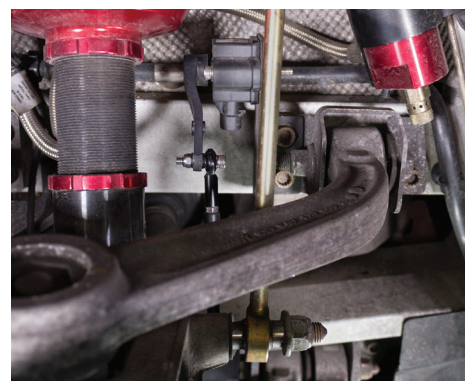

fig. 14
- Install the height sensor to the sensor bracket using the supplied hardware. It may be necessary to trim the sensor screws (Figs. 14 & 15). See chart for torque specifications.
- Install the linkage using the supplied hardware. (Figs. 14 & 15). See chart for torque specifications.